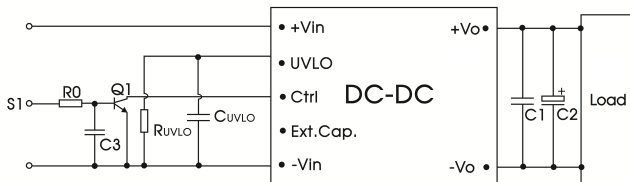

Fig.4
4. Ctrl current-mode logic recommended circuit design refer to fig.4.